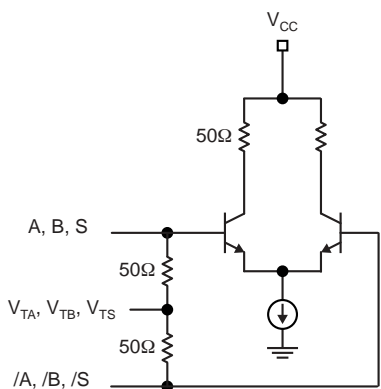

Figure 1a. Simplified Differential Input Stage
6. Due to the internal termination (see Figure 1a) the input current depends on the applied voltages at A, /A and  $V_{TA}$  inputs, the B, /B and  $V_{TB}$  inputs or the S, /S and  $V_{TS}$  inputs. Do not apply a combination of voltages that causes the input current to exceed the maximum limit!